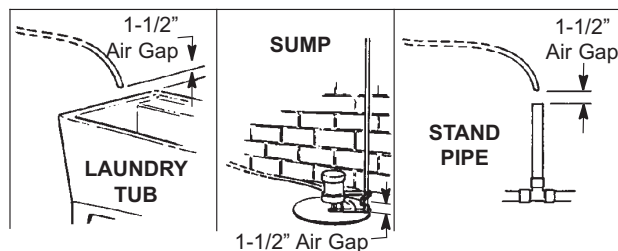

FIG. 4
- If installing a single bypass valve, push the bypass valve, with lubricated o-ring seals in place, into the valve inlet and outlet ports (See Figures 4 & 5).
- If installing a 3-valve bypass system, slide plastic installation adaptors, with lubricated o-ring seals in place, into the valve inlet and outlet ports (See Figure 4 & 5).
The house cold water pipe (metal only) is often used as a ground for the house electrical system. The 3-valve bypass type of installation, shown in Figure 4, will maintain ground continuity. If you use the plastic bypass, continuity is broken. To restore the ground, do either step **4a** or **4b** following.
- a. Take a length of 1/2" inside diameter hose and attach to the valve drain fitting, securing it with a hose clamp (See Figure 4 on page 6).
- b. Locate the other end of the hose at a suitable drain point (floor drain, sump, laundry tub, etc.). Check and comply with local codes. Refer to Figure 4 if codes require a rigid pipe drain run.